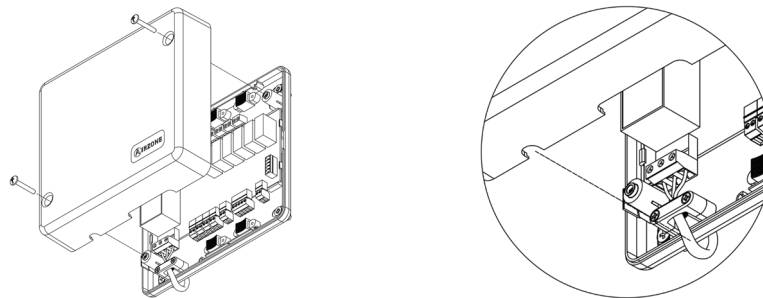

Fig. 108
**Remember:** Once all the connections are made, make sure you replace the cover properly (Fig. 108).